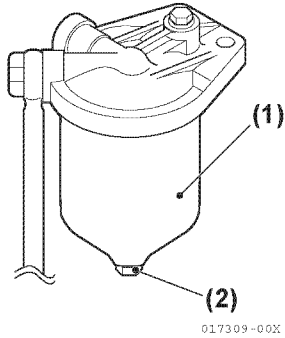
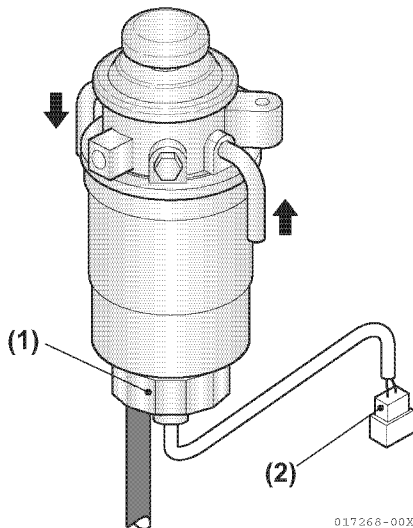

Figure 6-42
Figure 6-43
3. Loosen the drain plug (**Figure 6-42, (2)**), (**Figure 6-43, (1)**) on the bottom of the water separator and drain off any water or dirt.
4. 4JH4-TE / 4JH4-HTE: Disconnect water sensor connector (**Figure 6-43, (2)**).
9. Ensure drain plug (**Figure 6-42, (2)**) and (**Figure 6-43, (1)**) is securely tightened.